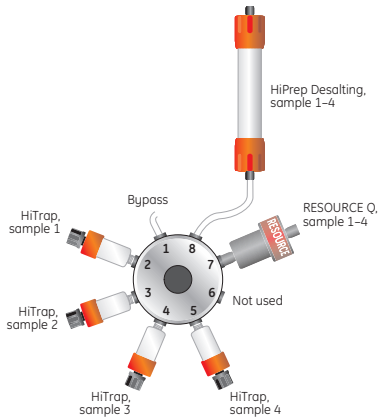

Fig 2. Column connections at column valves V2 and V3.
- Connect selected columns as in Figure 2 and prepare them according to the “Buffer suggestions and column preparations” cue card.